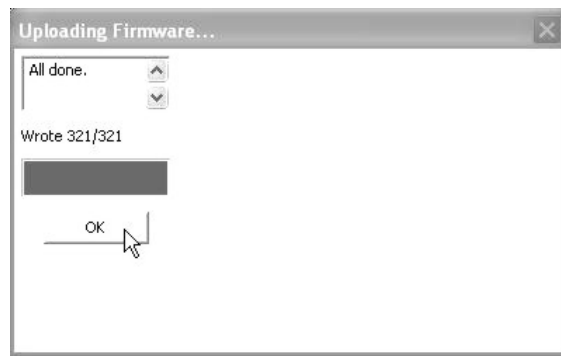

Figure 14: Upload Firmware Window
2. Select the file and click OPEN and you should see the progress as shown in Figure 14. The 928A displays “FLASH PROGRAM IN PROGRESS” during the installation. Click OK when finished.